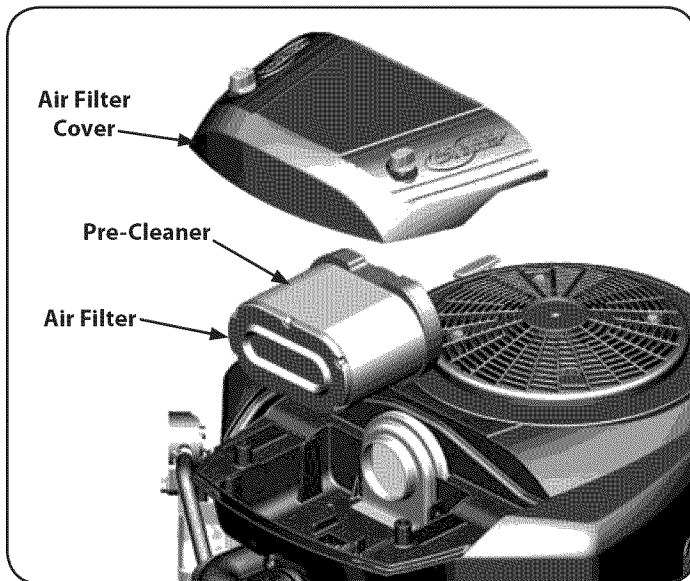

Figure 25
- Remove the air filter cover. See Figure 25.